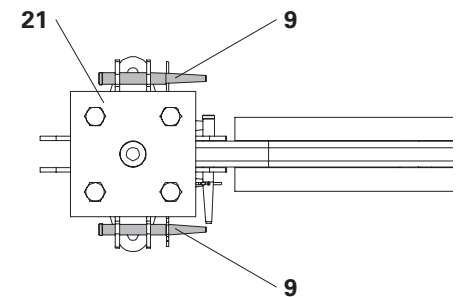

Fig. F3.03a
The lifting gear is attached to 4 lifting pins  $\text{Ø } 21 \times 120$  (9) which are mounted on the prop connector VST 48 (21). (Fig. F3.03a)